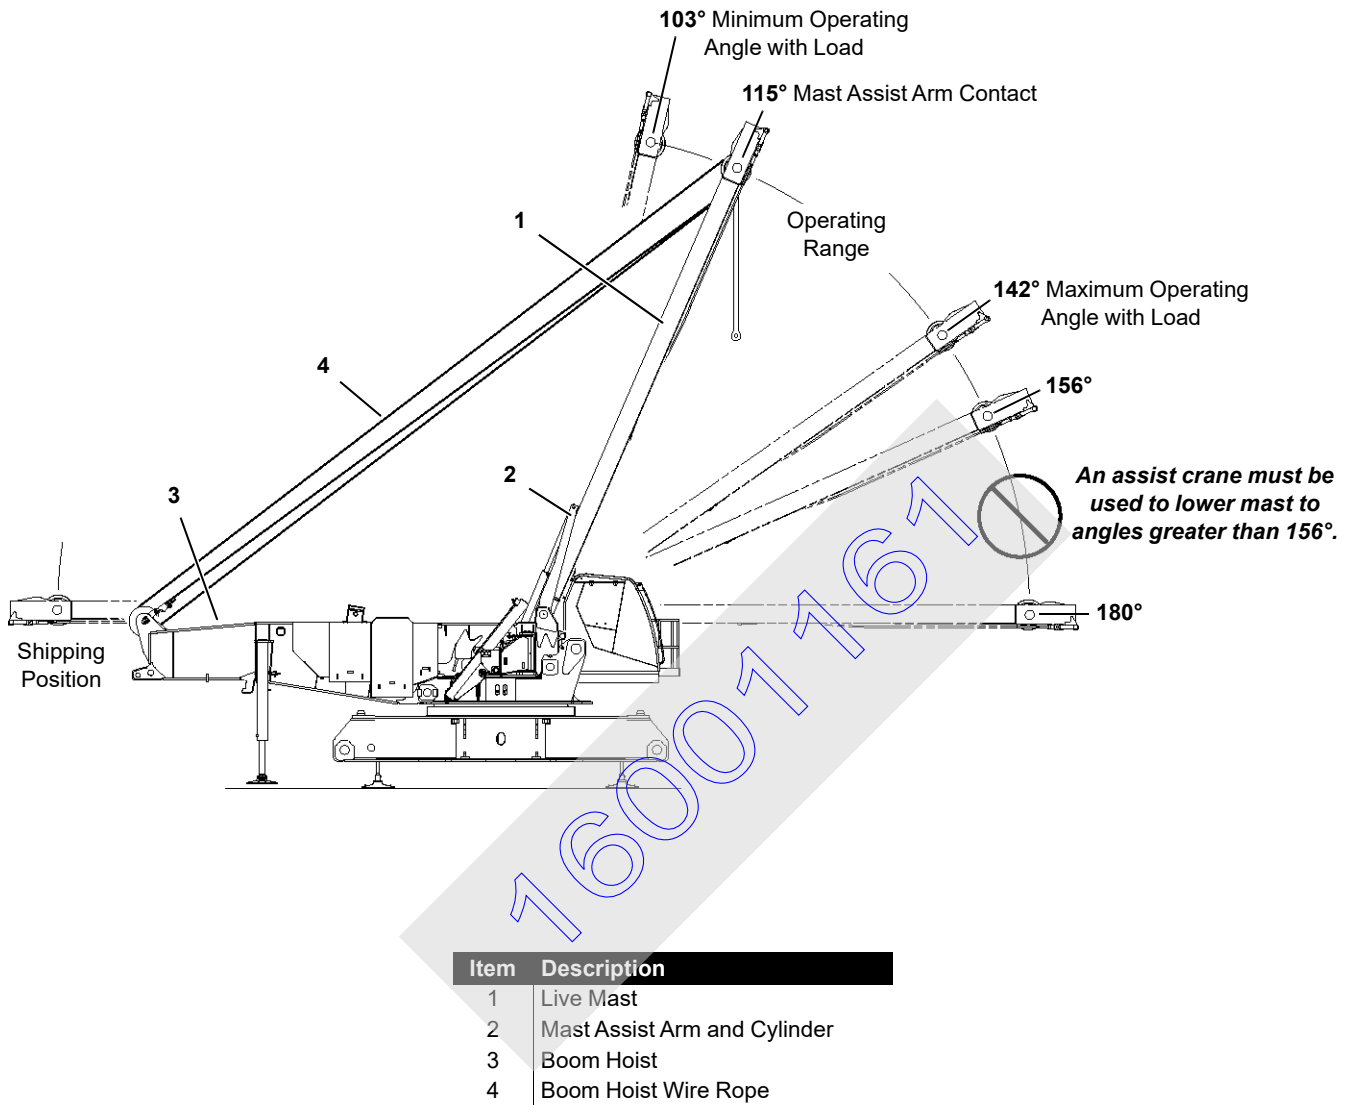

FIGURE 4-12
See Figure 4-12 for the following procedure.
10. Once mast is at or above 156°, support mast with boom hoist wire rope and disconnect handling pendants (2) from assist crane block.
13. Position mast in operating range (see Figure 4-12).